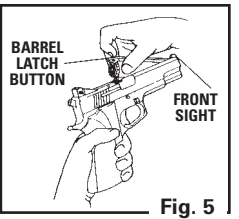

Fig. 5
- Press barrel latch button toward the front sight until the barrel pops open (Fig. 5). **DO NOT PULL THE BARREL UPWARD BEYOND THIS POINT. This could damage your air pistol.** The air pistol will not fire when the barrel is in the open position.